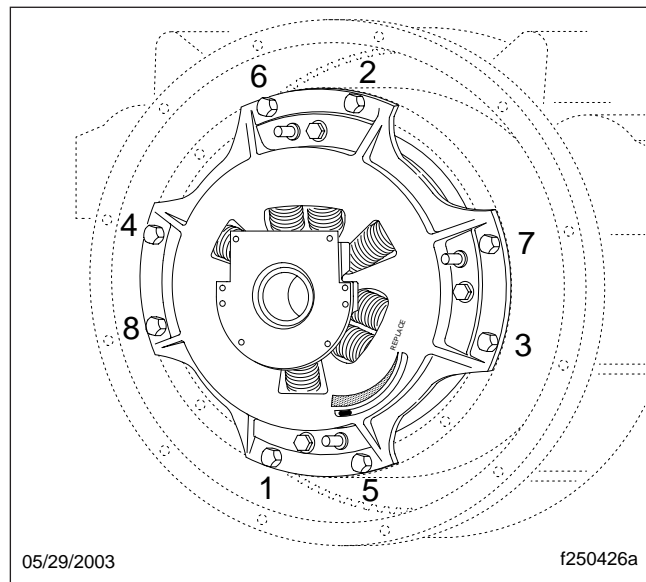

Fig. 5, Loosening Sequence
6. Progressively loosen each of the mounting capscrews in the pattern shown in **Fig. 5**. This will prevent warping or bending within the clutch, and will ease removal of the clutch mounting capscrews.